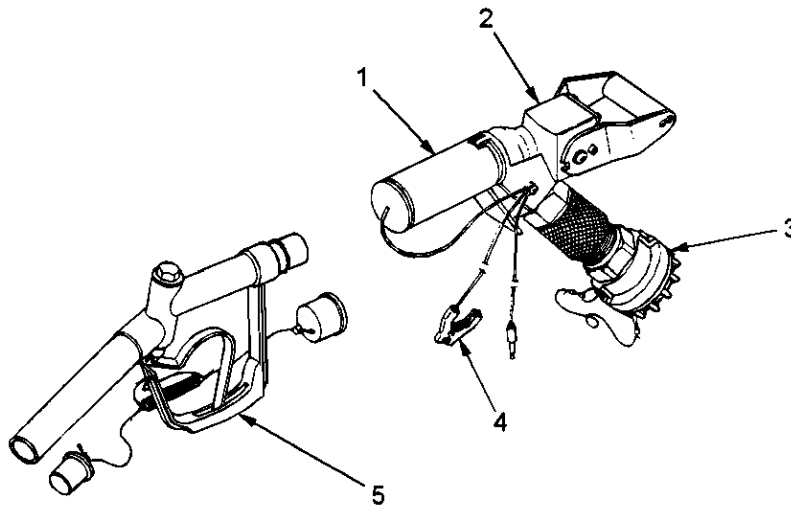

Figure 1-8. CCR Nozzle Assembly and Gravity Fill Adapter
The CCR nozzle assembly (1), figure 1-8, consists of a standard CCR nozzle (2) fitted with a two-inch unisex coupling (3) and a grounding cable (4). A Gravity Fill Adapter (GFA) (5) is used in conjunction with the CCR nozzle assembly (1) to allow open port fueling of equipment not equipped with a standard CCR receiver. For a detailed description refer to TM 10-4930-248-13&P.